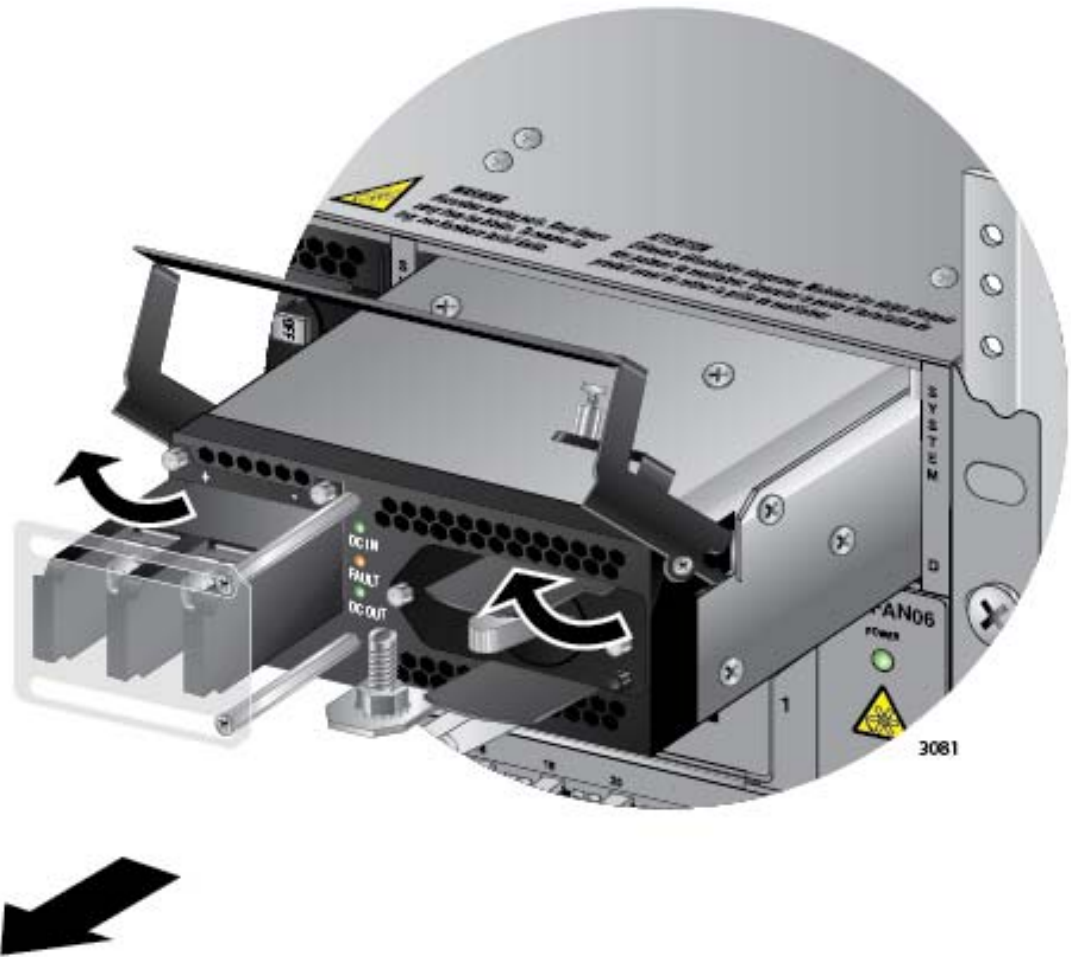

Figure 160. Lifting the Locking Handle and Removing the Power Supply
11. Lift the locking handle and slide the power supply from the chassis. Refer to Figure 160 on page 245.